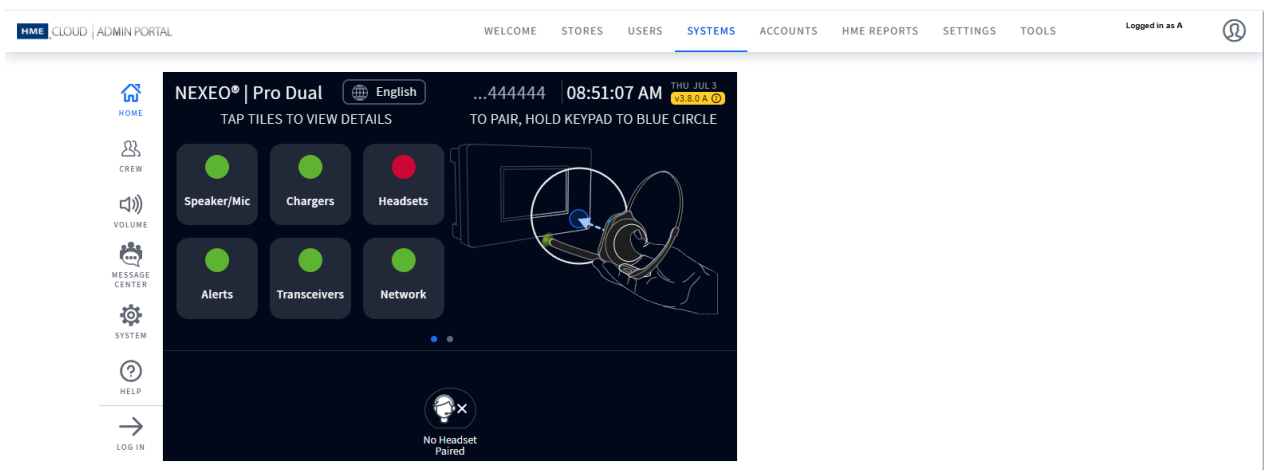

Fig. 8.5
5. A new page will open with your device's HOME screen displayed (Fig. 8.5). You can now log in to your base station remotely and make any necessary changes, such as configuring and customizing settings, recording greeter messages and reminders, applying snapshots, and more.